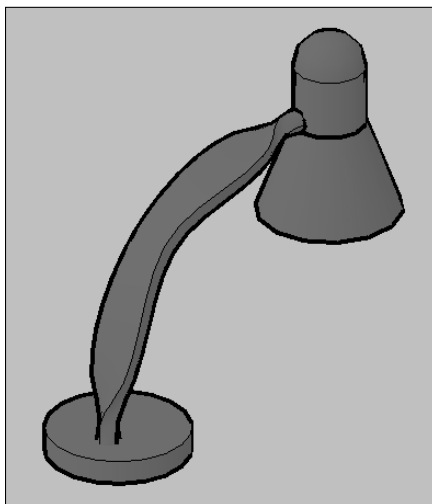

**Figure 24-15:** The completed lamp with a lofted arm.
6. Save your drawing. Use the 3D Orbit override (Shift + mouse wheel) to change to a view that shows the arm more clearly. It should look like Figure 24-15.